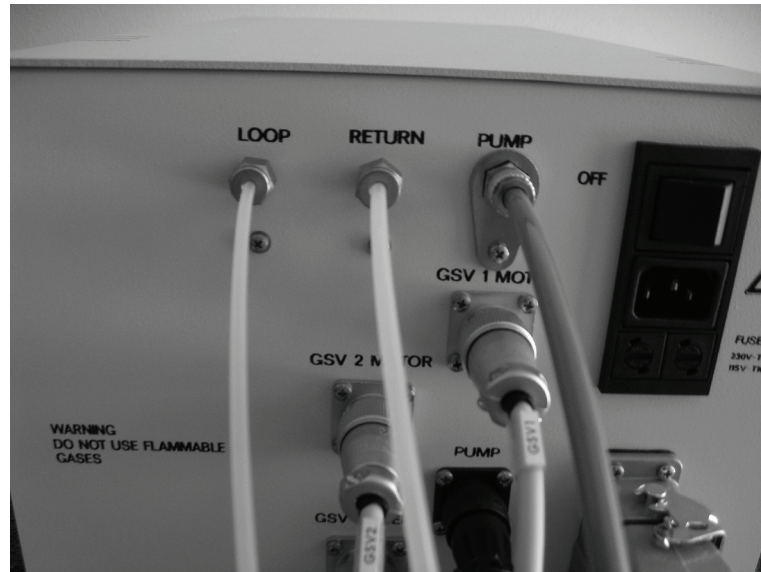

Figure 41 TL 9000 controller module (rear view) with pipelines fitted
5. Insert the blue pipe from the vacuum pump into the PUMP port, and hand tighten the lock ring (Figure 41).
6. Fit the 1/8" PTFE tube from the GSV assembly to the LOOP port, hand tighten the nut, and then secure it with a quarter turn using a 7/16" spanner (Figure 41).
7. Fit the 4 mm PTFE tube from the GSV assembly to the RETURN port, hand tighten the nut, and then secure it with a quarter turn using a 1/2" (12 mm) spanner (Figure 41).